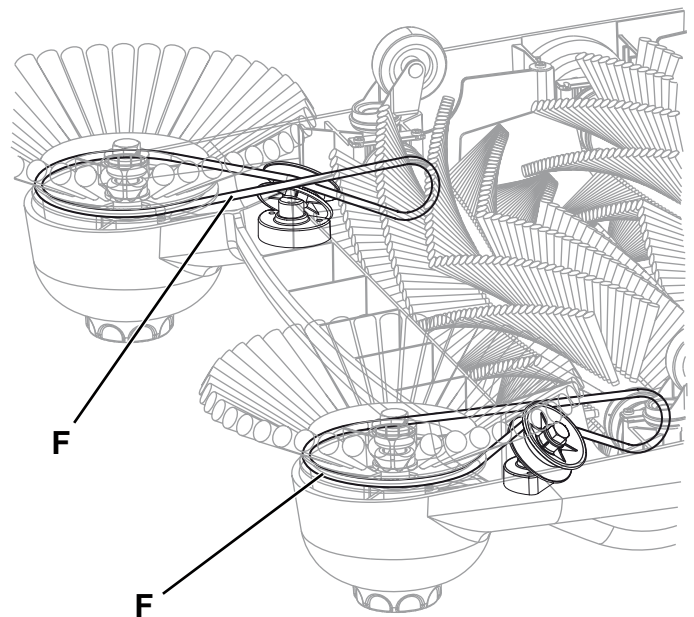

Figure 4
- Install the driving belt (F, Fig. 4) as shown.